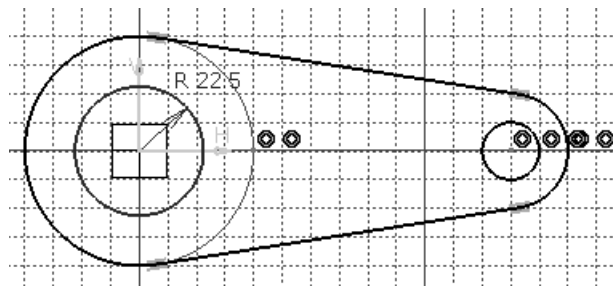

Figure 3-57 Final sketch after creating the outer and inner loops
- c. Draw the inner loops of the sketch using the **Circle** tool, refer to Figure 3-57.
5. Move the cursor horizontally toward the right and specify a point, when the coordinate values above the cursor is 140,0. The final sketch, after creating the outer and inner loops, is shown in Figure 3-57. Press the ESC key to exit the selection set and the **Circle** tool.